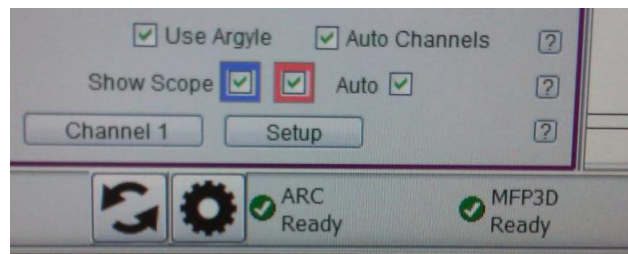

Figure 1. MFP-3D software tray
3. Open the MFP-3D software by clicking on the icon on the computer desktop. Wait until **MFP-3D Ready** appears at the bottom of the MFP-3D software tray (Figure 1).